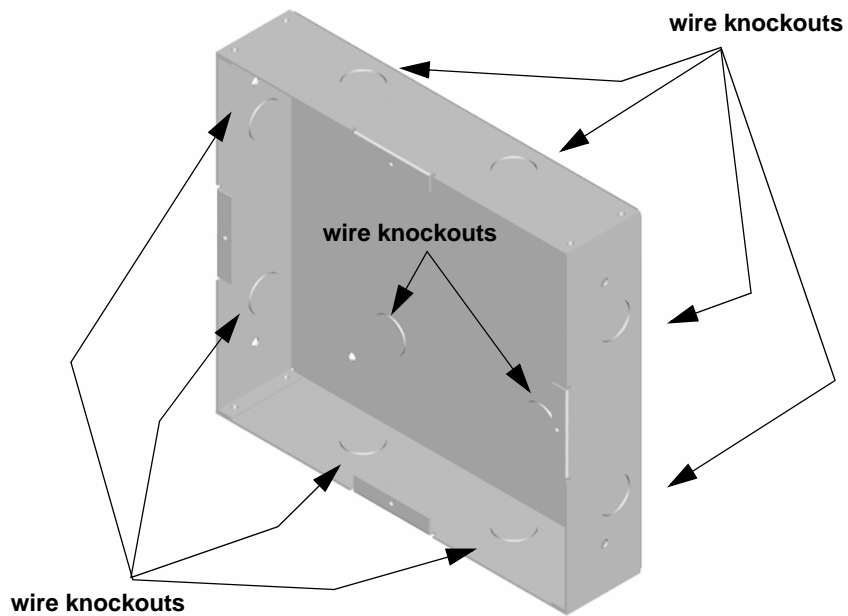

Figure 4-13 Back Box Knockout Locations
2. Remove knockout holes as needed for wires. See Figure 4-13 for backbox knockout locations
1. Remove the desired knock out. See Figure 4-13.
- Remove knockout holes as needed for wires. See Figure 4-13 for backbox knockout locations.
- Remove the desired knock out. See Figure 4-13.